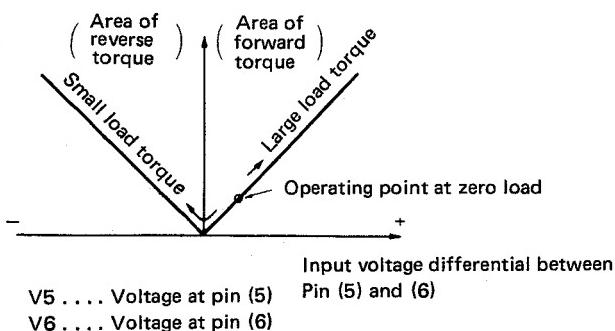

Fig.10-2 PA2008 absolute value amp input/output response.
- When the motor starts to rotate, the signal from the frequency generator (FG) at the motor rotating section is shaped into a 50% duty square wave by the waveform shaping block and is applied to pin ⑯ (RG ref) and pin ⑮ (FG IN) of PA2007. The frequencies obtained here are 55.55 Hz for 33 rpm and 75 Hz for 45 rpm.
- On the other hand, the 6.144 MHz signal of the crystal oscillator installed outside the oscillation and division IC PD1003 is divided to 1/4096 by the division circuit of PD1003. This signal is converted to phase comparison sampling pulses by a division ratio selection circuit. At 45 rpm, the signal is divided to 1/20 (65 Hz) and for 33 rpm, the signal is divided to 1/27 (55.5 Hz), and applied to pin ⑦ of PA2007.
- The buffer amp 1 and 2 outputs are combined and the output (pin ⑪) for comparison with the reference voltage is sent to pin ⑥ of the absolute value amp of PA2008.
- At absolute value amp PA2008, the input signal is compared with the reference voltage (Vref) from pin ⑫ of PA2007 and the motor winding current is generated according to the voltage difference.
- Since the speed does not reach the rated speed when the motor is started, the voltage is lower than the reference voltage (Vref; 5.15V). Therefore, the absolute value amp gives a command which generates a positive torque to the rotating direction command circuit so the motor speed is raised. Then the motor gradually reaches constant speed. (See Fig. 10-2.)